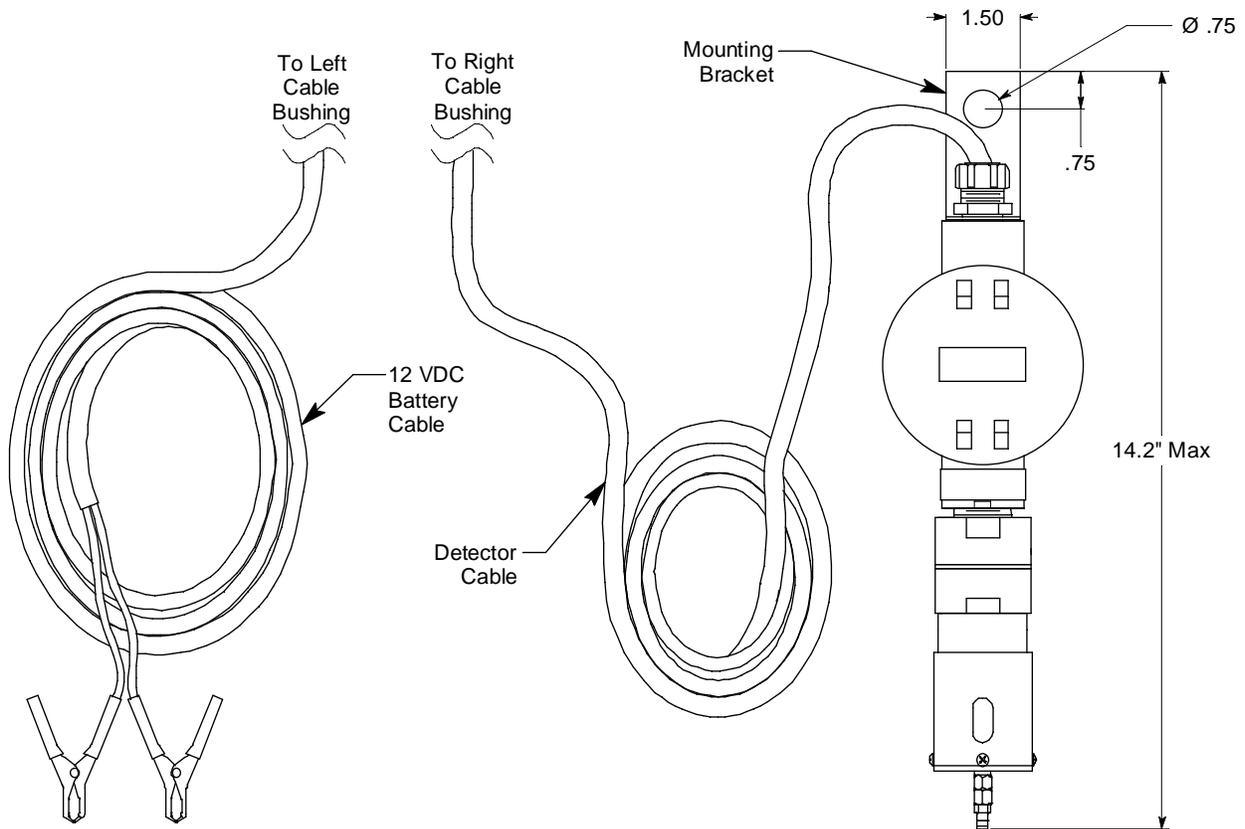

Figure 6: Junction Box Outline & Mounting Dimensions
6. At the monitoring site you select, hang the junction box with the detector facing down (see Figure 6).